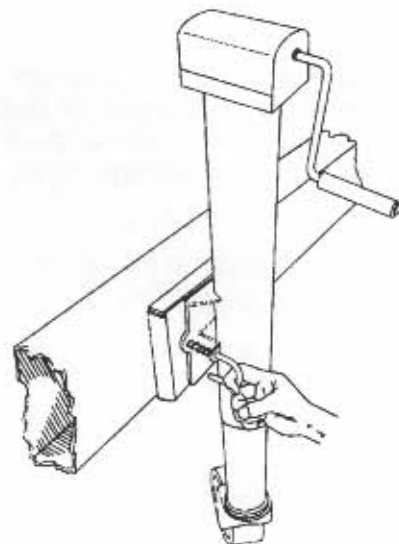

Figure P4: Swivel Jack
1. Pull on the lock pin. See Figure P4.